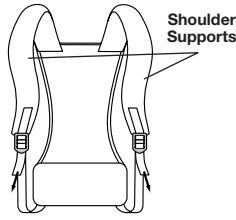

Fig. 2
- Pull the shoulder support straps down to tighten the shoulder supports (Fig. 2).